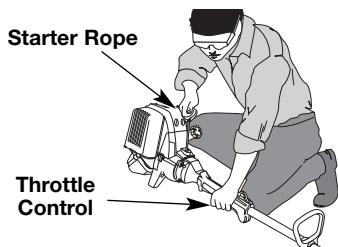

Fig. 13
WARNING: Avoid accidental starting. Make sure you are in the starting position when pulling the starter rope (Fig. 13). To avoid serious injury, the operator and unit must be in a stable position while starting. Make sure that any Add-On item is installed correctly and secure before starting the unit.
6. Crouch in the starting position (Fig. 13), squeeze the throttle control, and pull the starter rope briskly 5 times.